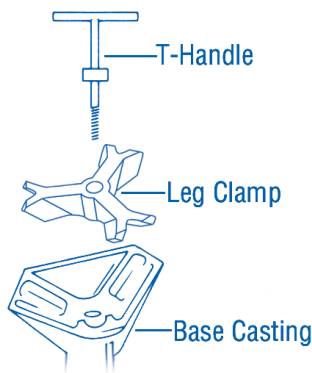

Figure 5
2. Insert T-Handle through the middle of the Leg Clamp with “claws” of leg clamp on same side as threads of T-Handle (figure 5.)